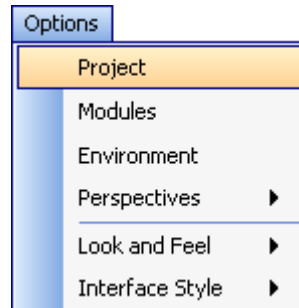
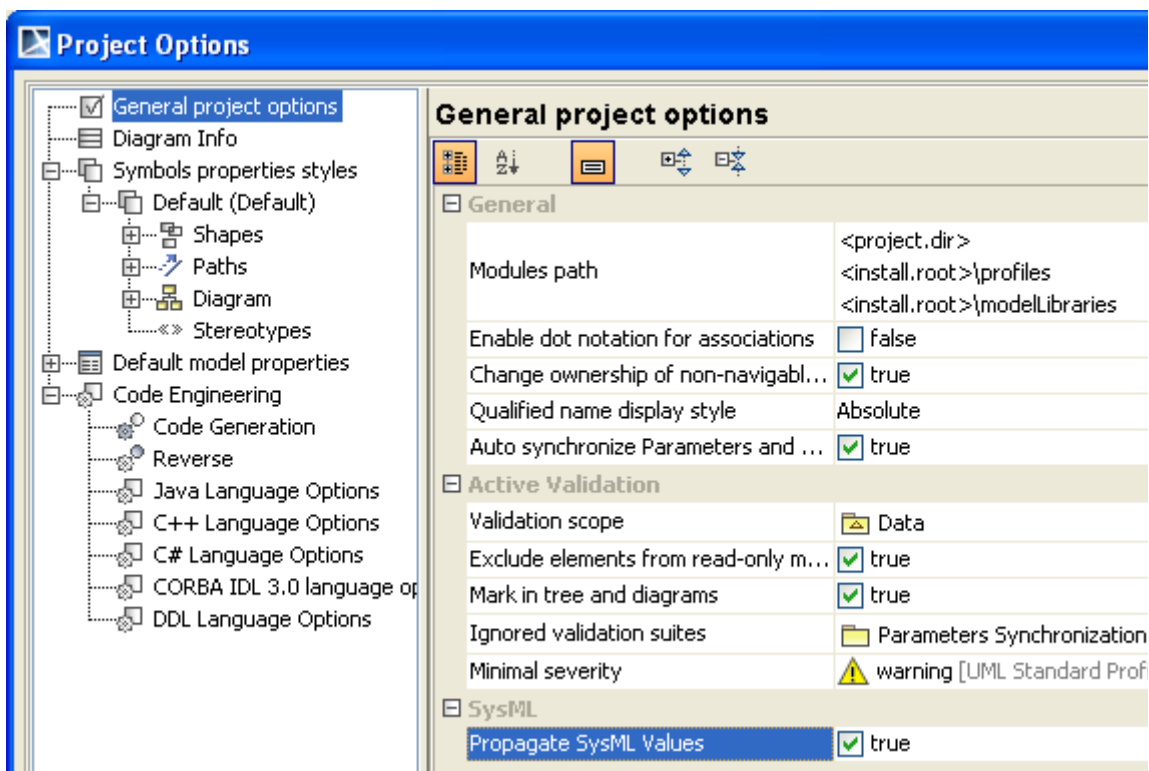

Figure 234 -- Project Options Menu
Figure 235 -- Project Options - Propagate SysML Values
1. Click **Options > Project** on the main menu (Figure 234) to open the **Project Options** dialog (Figure 235).
3. Select the **Propagate SysML Values** check box and click **OK** (Figure 235).